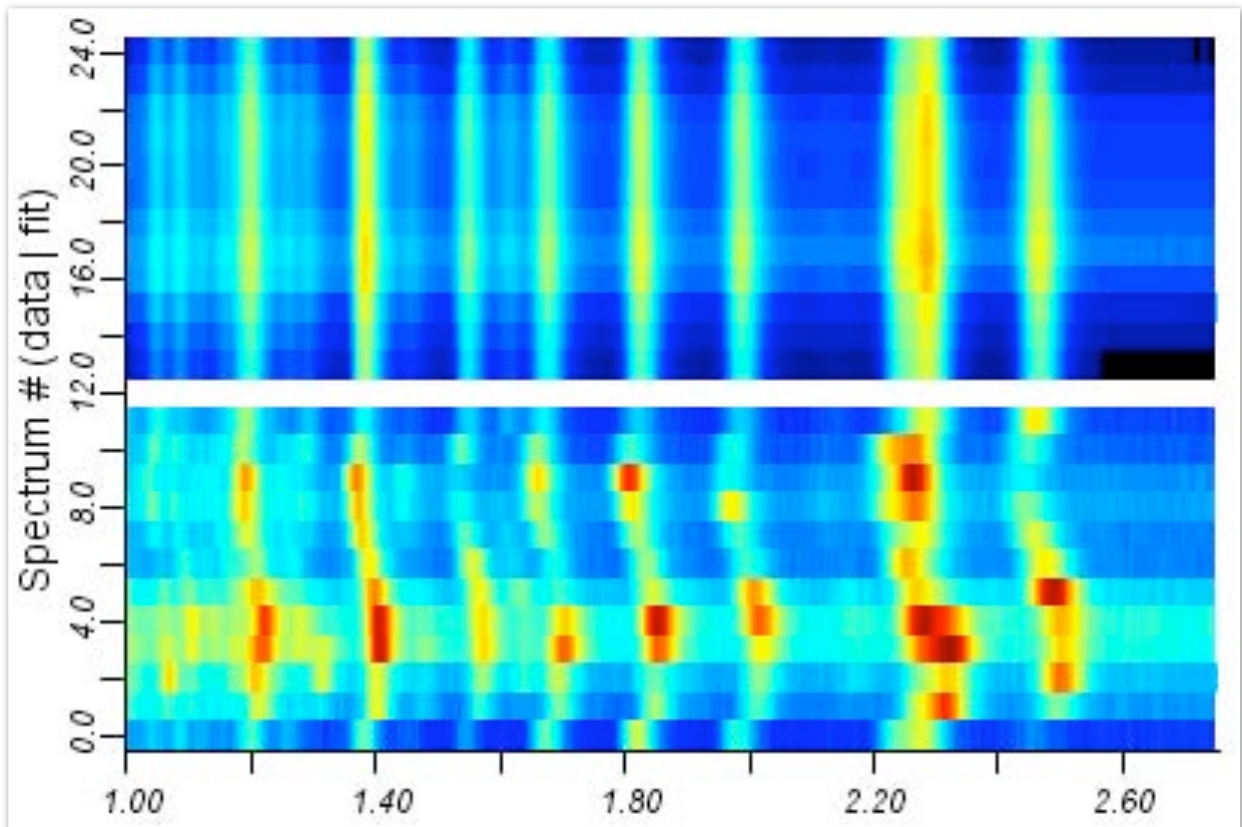

Figure 6: Starting data and fit of the refinement as seen in the 2D plot panel.
- Cycle 1: Refining the scale, background parameters and phase fractions for multiphase systems. The intensity calibration (12 parameters) are directly loaded from the HIPPO calibration file and then kept constant. A single scale factor is refined for each detector. Backgrounds are expressed with a polynomial. Three coefficients are refined for each bank and in addition two for each panel. Backgrounds start to look reasonable and so does the overall intensity (Figure 6). Note that the high-angle 150° bank detectors have a much higher resolution than the 40° bank, but lower counting statistics. Texture is not reflected in the recalculated spectra. Also, the wavy line is not matched due to mispositioning of the sample, which is particularly serious for the 40° bank.